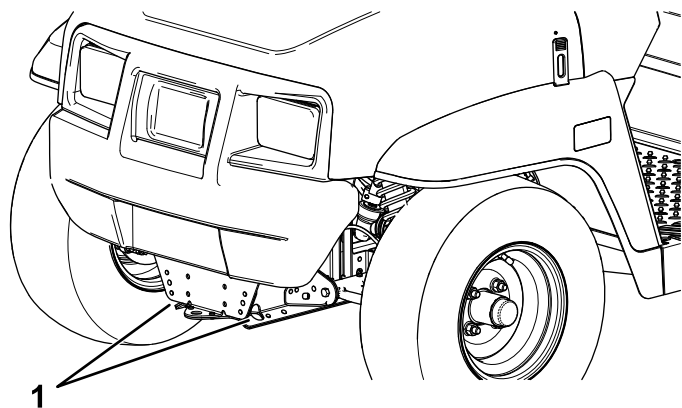
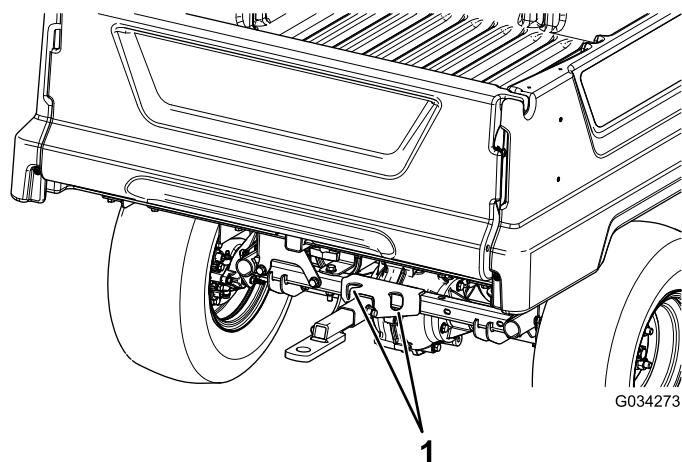

Figure 21
Figure 22
Refer to Figure 21 and Figure 22 for the tie-down locations on the machine.
2. Affix a tow line to the tongue at the front of the machine frame (Figure 21).